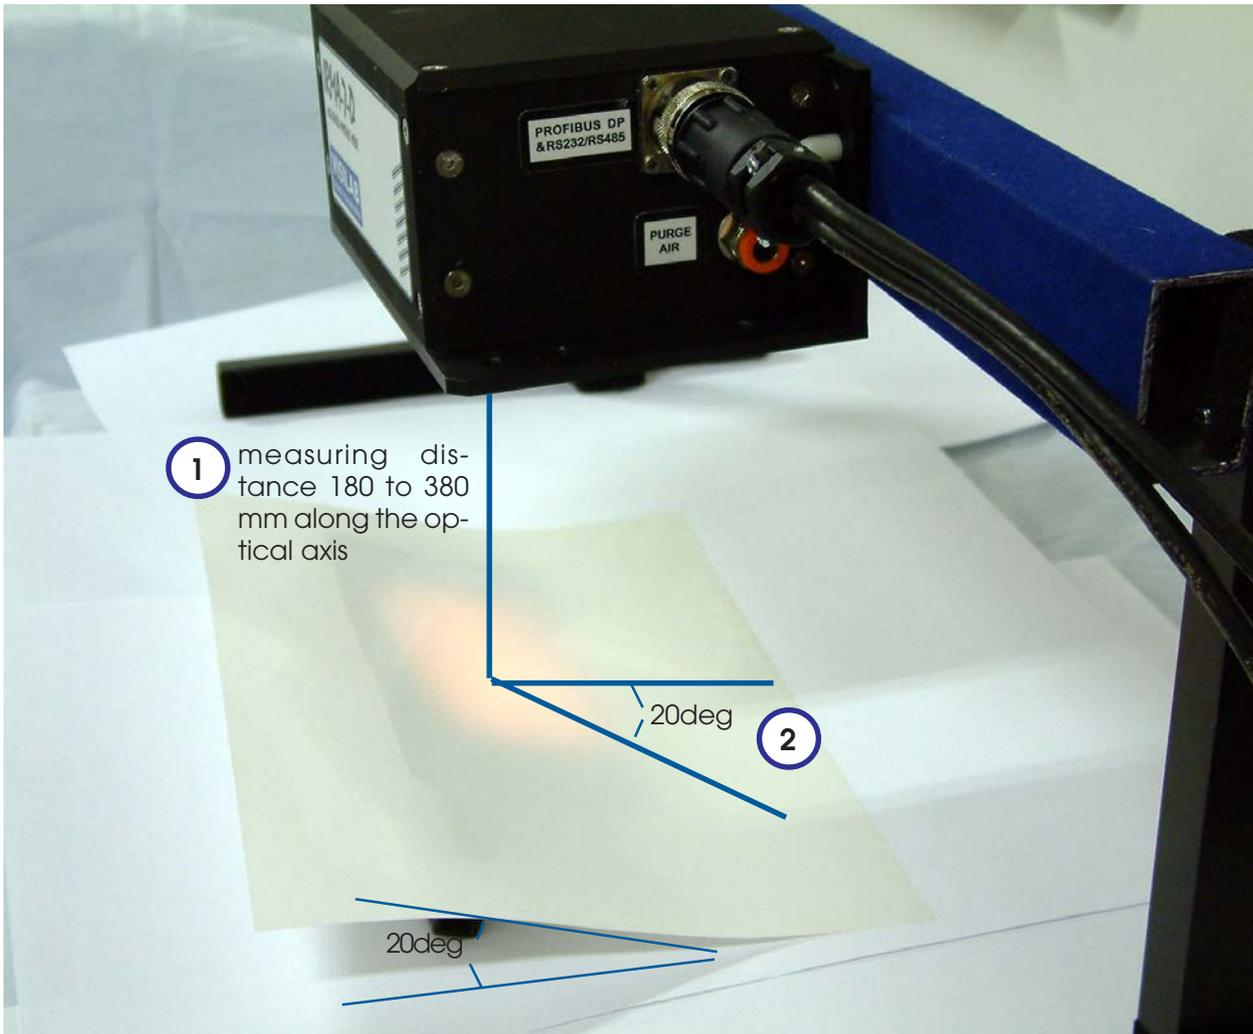

Figure 1. Measuring glossy papers, off-line or on-line. Numbers refer to the text in the following.
2. The angle is determined as a rotation of the meter around its main axis, in the direction indicated in Fig. 1. AK50 meters can accept a rotation to negative direction too but earlier revisions do not. Stick to the tilt once adopted.